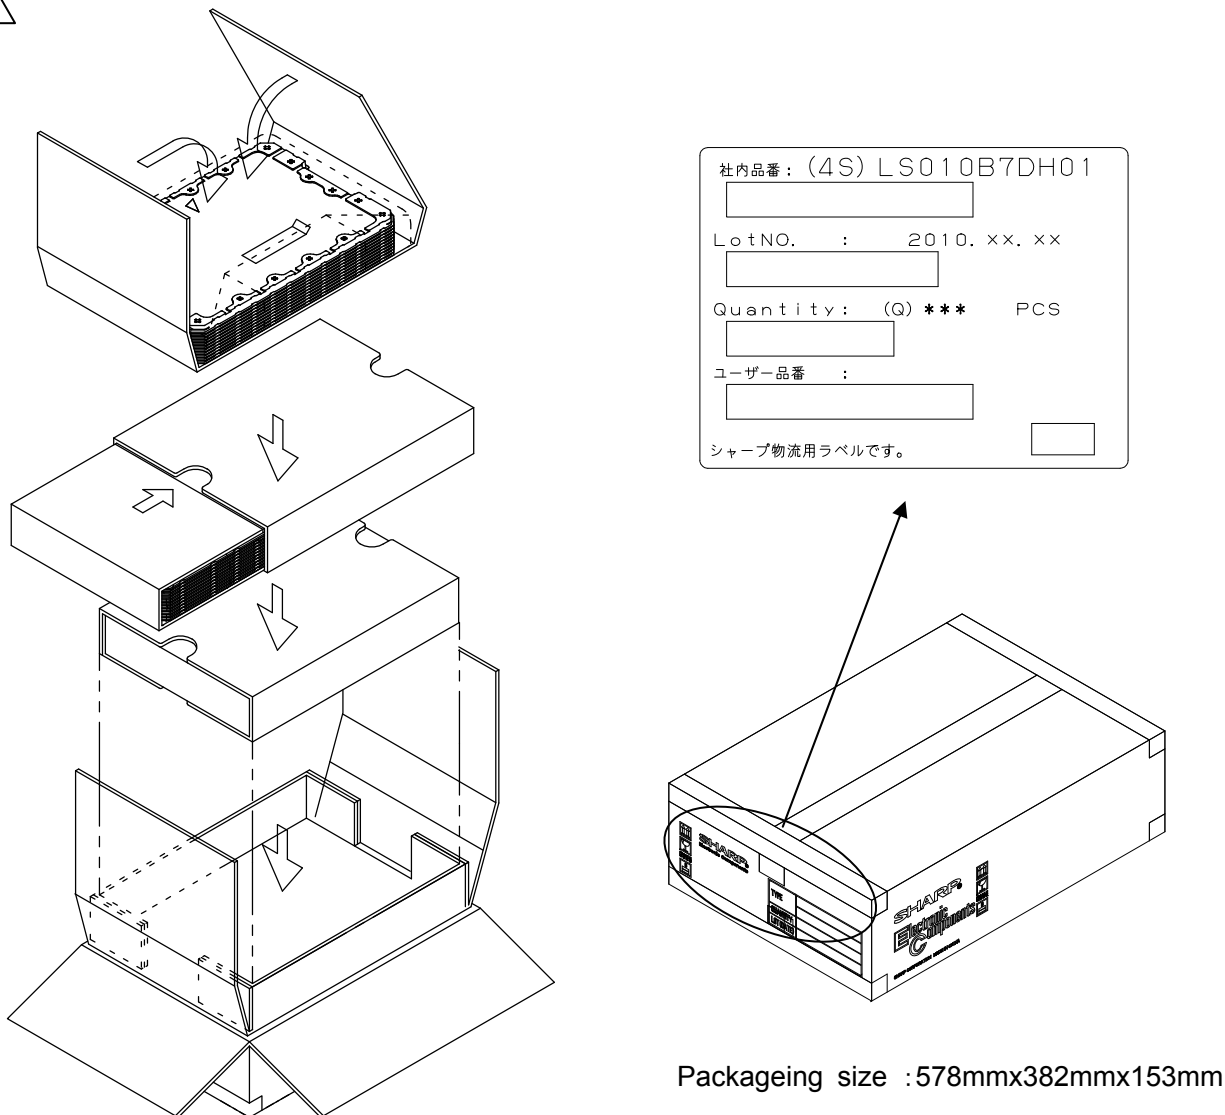

Figure 22 Packing form
- △ 3) Packing form: As shown in figure 22.